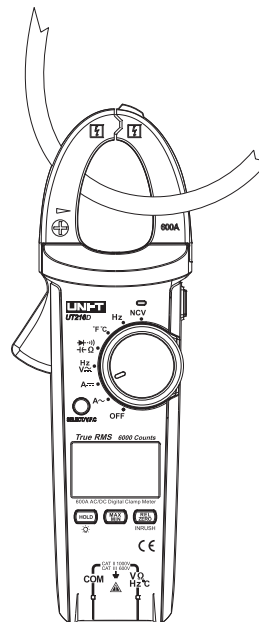

Fig. 2
1.Measurement of AC current (shown as Fig. 2)